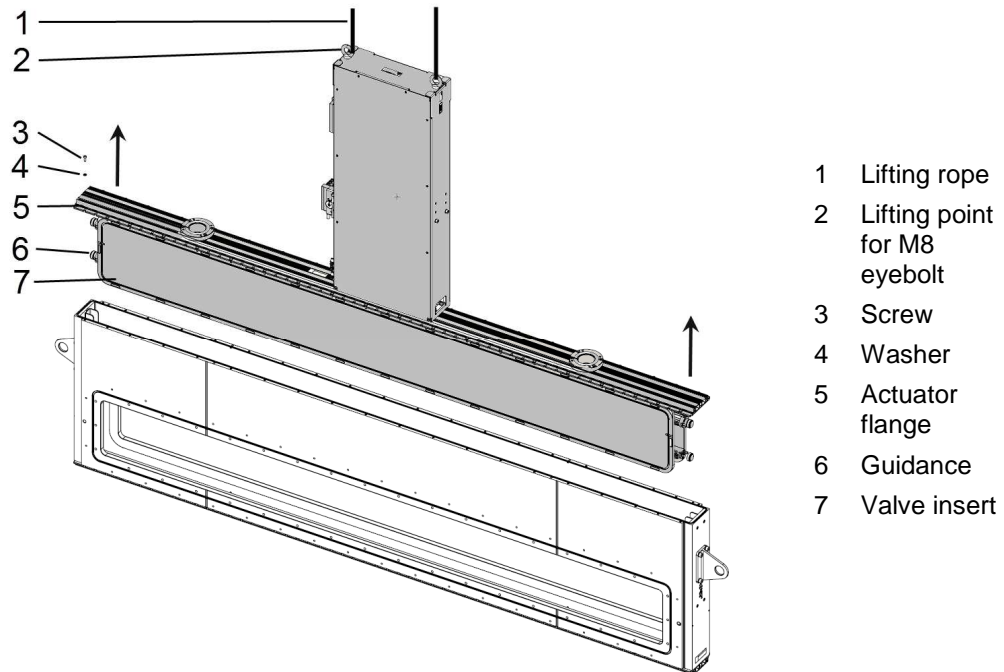

Figure 6-4
5. Fasten lifting ropes at the lifting points; see «Figure 6-4» on page 32.
6. Remove screws (3) with an allen wrench size 5 from actuator flange (5); see «Figure 6-4» on page 32.
7. Lift valve insert (7) by using a crane or lifting device; see «Figure 6-4» on page 32.
9. Clean 4x guidance (6) if required.
11. Tighten screws (1) with a **torque of 9 Nm**; see «Figure 6-4».